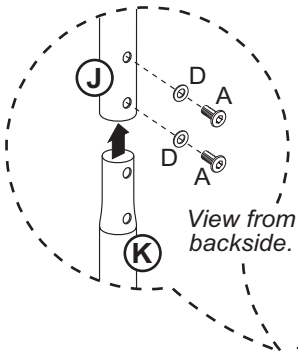

FIGURE 3
STEP 3 - Figure 3 - Full Size Only